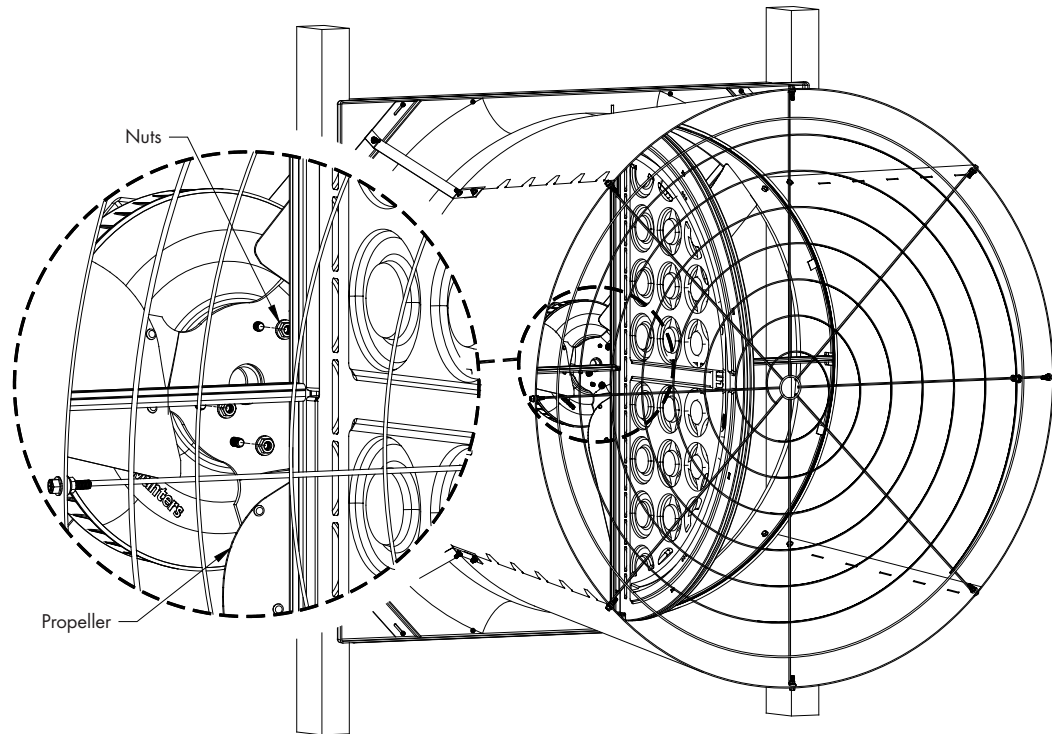

Figure 9
Remove (4) nuts from face of the Munters Drive Motor. Position propeller onto bolts of Munters Drive Motor and secure with (4) nuts just removed. Tighten the nuts to 200 in-lbs. of torque. *See Figure 9.*